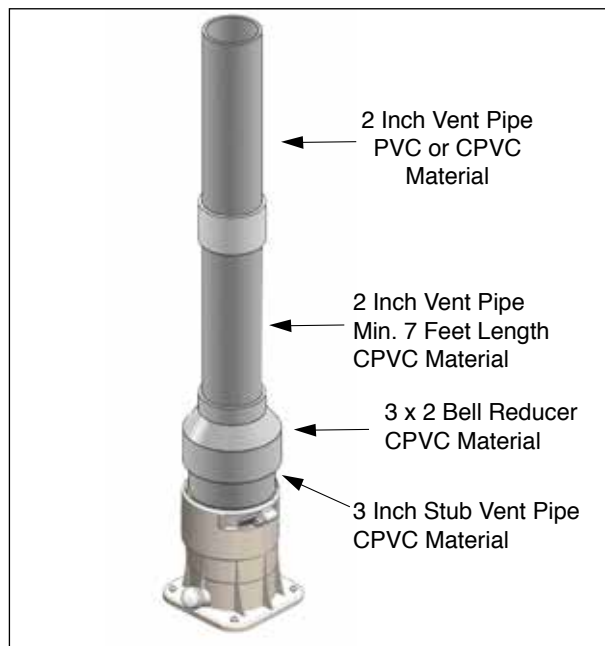

Fig. 21 - 2" (60 mm) CPVC/PVC Venting System Vertical
3. Use a 3" (80 mm) x 2" (60 mm) bell reducer to make the transition to 2" (60 mm) CPVC/PVC vent, see *Figs. 21 and 22*.